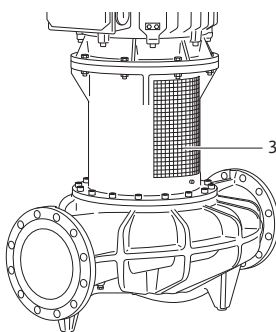

Fig. 48: Installed coupling guard metal sheet
- **The pump may only be operated with the coupling guard metal sheets installed (Fig. 48, item 3).**